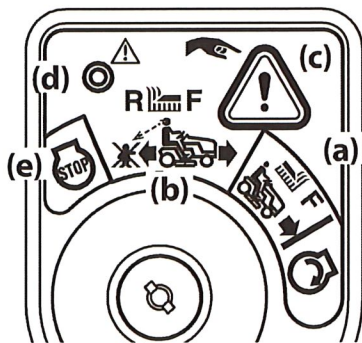

Figure 19
- Turn the key from the NORMAL MOWING (a) position to the REVERSE CAUTION MODE (b) position of the ignition module. See Figure 19.
- Press the REVERSE PUSH BUTTON (c) at the top, right corner of the ignition module. The red indicator light (d) at the top, left corner of the ignition module will be ON while activated. See Figure 19.
- Always look down and behind before and while backing to make sure no children are around. After resuming forward motion, return key to the NORMAL MOWING (a) position. See Figure 19.
- The REVERSE CAUTION MODE (b) will remain activated until (see Figure 19):